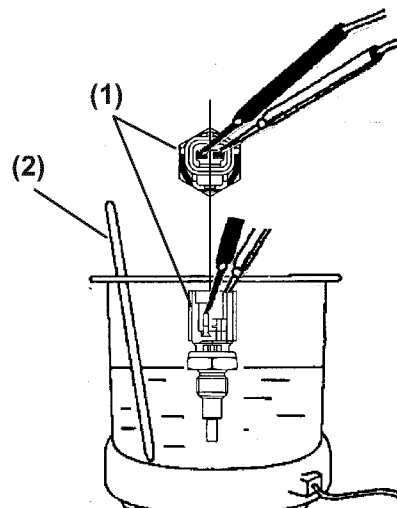

Figure 8-10
1. Inspect the water temperature sensor to make sure that it is properly operating. As shown in the following figure, connect an electric resistor to the coupler of the water temperature sensor (**Figure 8-10, (1)**).
2. Dip the water temperature sensor and an accurate thermometer (**Figure 8-10, (2)**) into the cooling water.